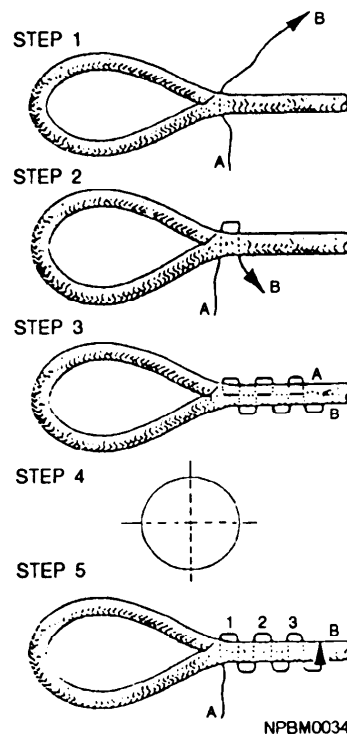

Figure 2-12.—Making the lock stitch.
9. Prior to whipping (fig. 2-12), it is to your advantage to stitch-lock the splice to prevent no-load opening. You will need approximately one fid length of nylon or polyester whipping twine. The twine should be about the same size as the strands of line you are stitching. Strands cut from the line may be used. To begin the lock stitch, pass the twine (A) through the line as shown in step 1, figure 2-12. Reinsert the twine as in step 2. (Ensure that all the stitching is just snug. **DO NOT TIGHTEN.**) Continue until you have four complete stitches. After you have four stitches, turn the line 90° and pass the remaining end (B) through the line perpendicular to the original stitches to make four more stitches. The line should now look like step 4. Now take ends A and B, tie a square knot, and bury it in between the cover and the core. You may now whip the line or leave it as it is.